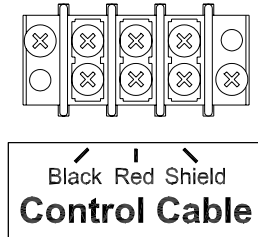

Figure 18 Control Cable Wiring Diagram
3. Connect the control cable to terminal block labeled **Control Cable** on the junction chassis according to figure 18.